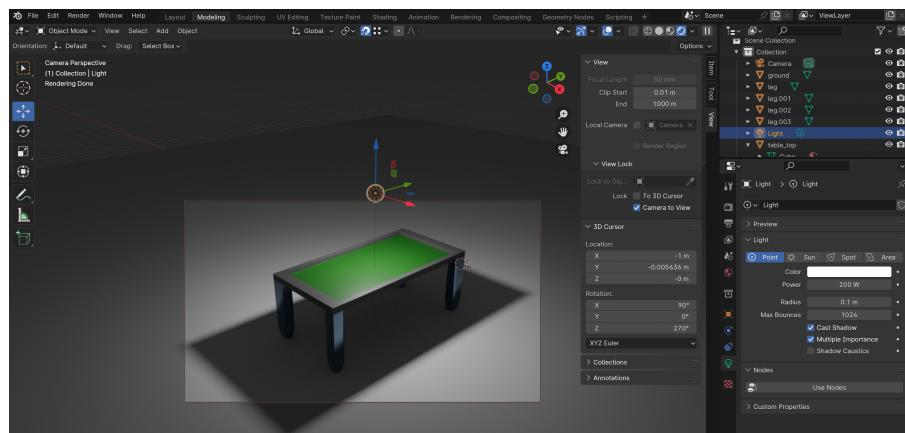

Figure 1.17: Adding point light.
39. In the *Properties* editor select light properties and change *Power* to 200 W and *Radius* to 0.1 m (see Fig. 1.17).